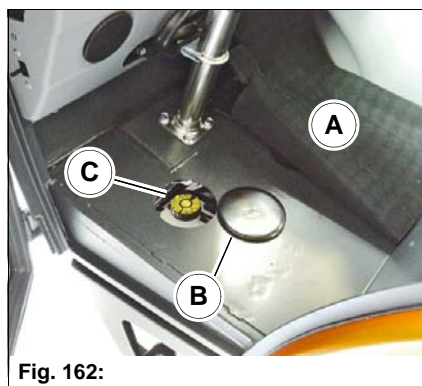

Fig. 162:
1. Put the foot mat **Fig. 162-A** aside and remove the blind cover **Fig. 162-B**.
2. Clean the filler cap **Fig. 162-C** and the area around the filler opening.